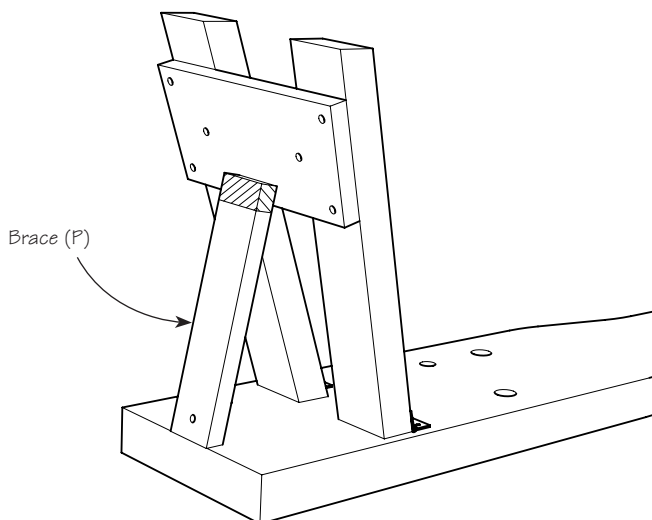
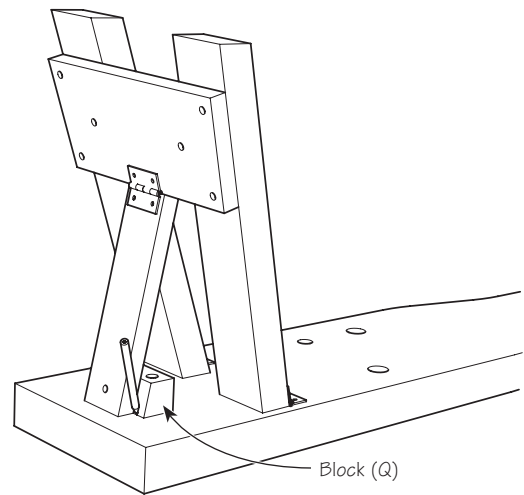

Figure 16: Fit the brace.
Figure 17: With brace installed, fit the block.
4. Make two leg braces (P) as shown in **Drawing P**. The drawing shows the length about 1" longer than necessary. Select one of the braces and hold it in place as pictured in **Figure 16**. Check the length and cut to length as required to fit to the edge of the gusset as pictured. Fold the back leg assembly flat against the bottom of the plank and hold the brace as shown in **Figure 17**. Place the hinge as pictured. Transfer screw locations to the gusset and brace. Drill pilot holes as required. Install the hinge. Use a block plane if needed to trim the free end of the brace to sit flat against the bottom of the plank.
5. Make two blocks (Q) as shown in **Drawing Q**. With the legs unfolded and the brace in place against the bottom of the plank, hold the block as shown in **Figure 17**. Trace its position onto the plank. Fold the legs into the storage position. Holding the block in place, transfer hole locations to the underside of the plank. Install the block with two #14 × 2½" flat-head wood screws.